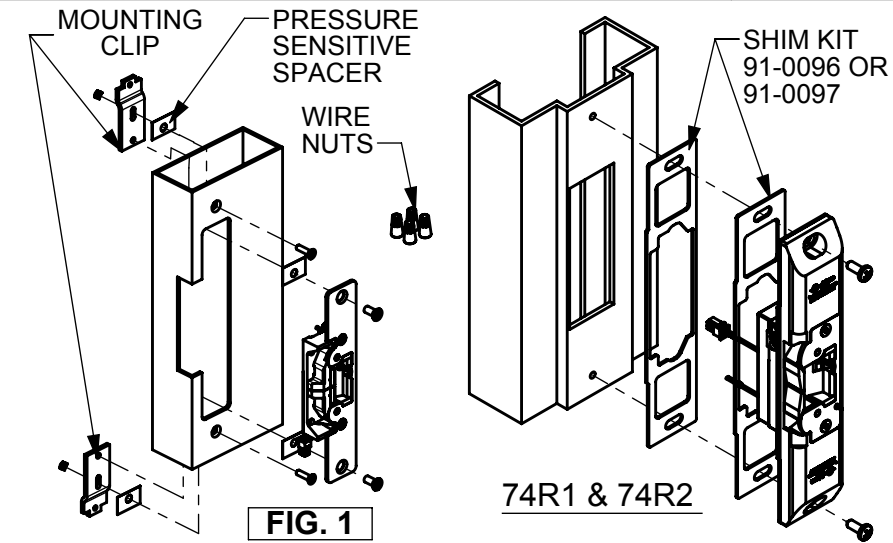

FIG. 1
INSTALLATION INSTRUCTIONS (SEE FIG. 1)
3. SPACERS ARE PROVIDED TO ASSURE FLUSH FINAL ASSEMBLY OF FACE PLATE & JAMB/STILE. ADD ONE OR MORE SPACERS BETWEEN JAMB/STILE & MOUNTING CLIP WHEN FACE PLATE EXTENDS BEYOND THE JAMB/STILE. WHEN THE FACE PLATE SETS INSIDE THE JAMB/STILE, SPACERS MUST BE ADDED BETWEEN THE MOUNTING CLIP & THE ELECTRIC STRIKE FACE PLATE. SEE FIG. 1 TO ATTACH SPACER TO MOUNTING CLIP. REMOVE PROTECTIVE COATING FROM SPACER & PRESS TO DESIRED MOUNTING CLIP SURFACE. MAKE SURE CLEARANCE HOLE IN SPACER ALIGNS WITH HOLE IN MOUNTING CLIP.